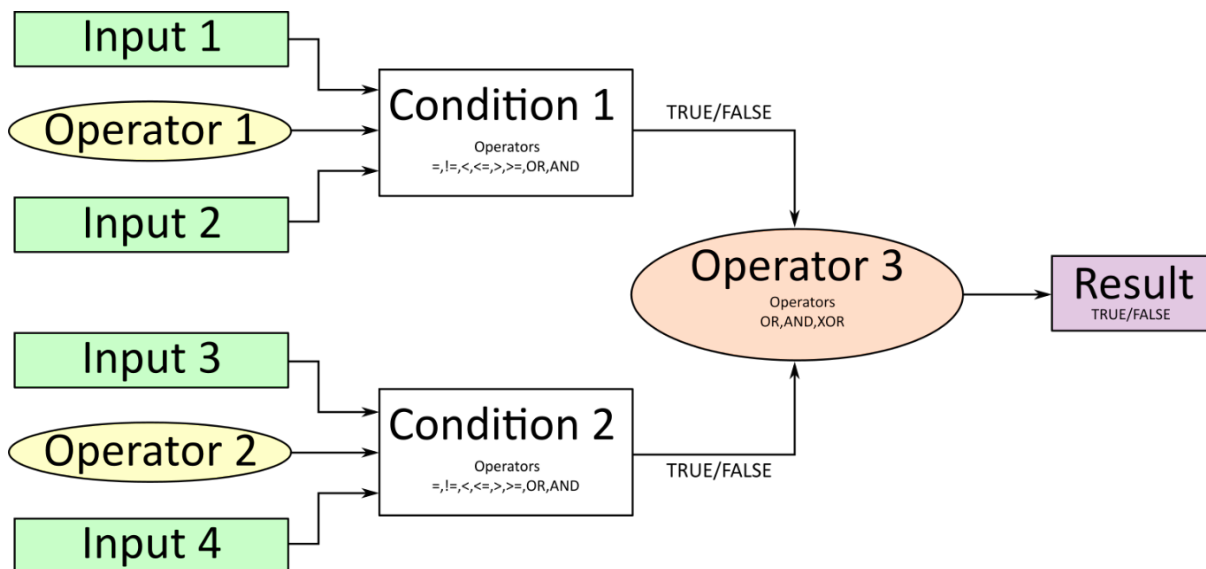

Figure 5 – Conditional Block Diagram
Conditional Logic Blocks compare up to four different input sources with different logical or relational operators. The result of each block can therefore only be true (1) or false (0). Figure 5 demonstrates the connections between all parameters.